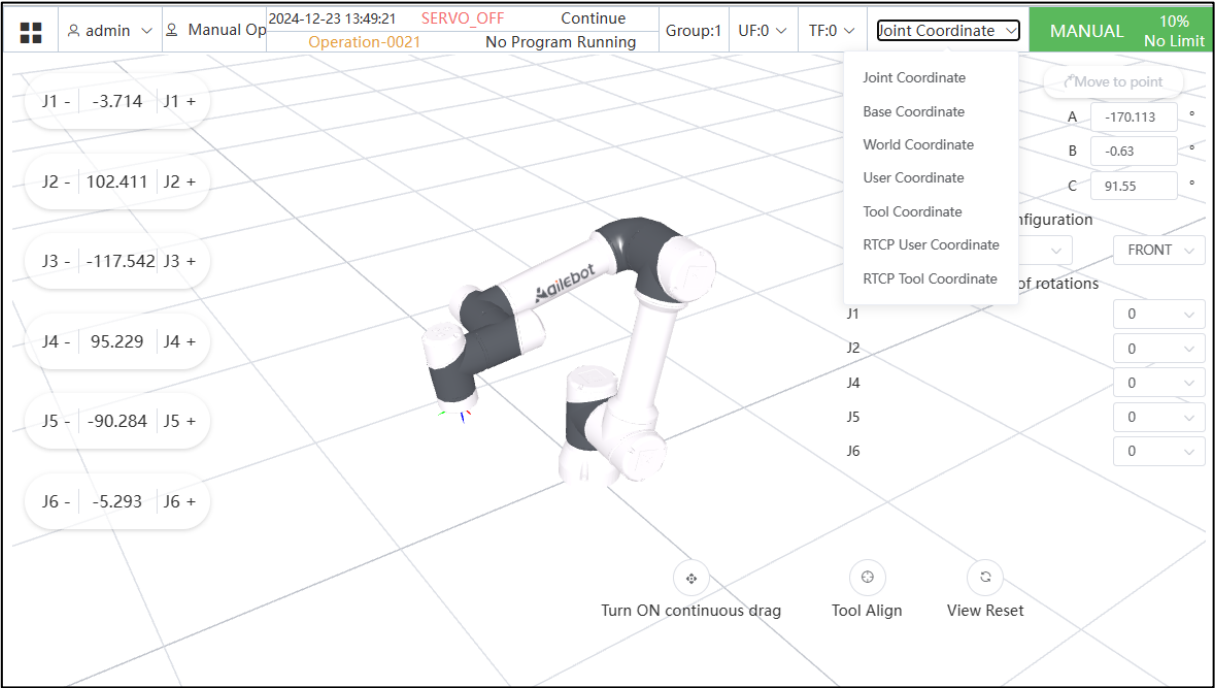

Fig. 1.18 Reference Coordinate System
2. In the status bar, select the reference coordinate system for robot operation as shown in Fig. 1.18.